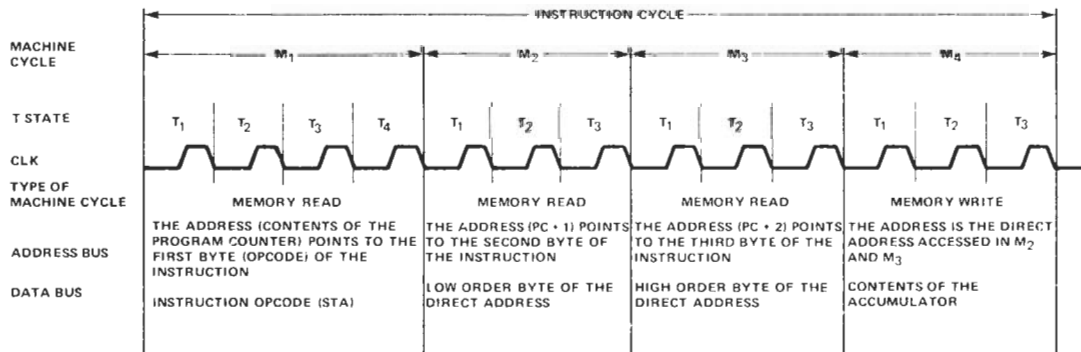

FIGURE 2-9 CPU TIMING FOR STORE ACCUMULATOR DIRECT (STA) INSTRUCTION
Each READ or WRITE operation of the 8085A is referred to as a machine cycle. The execution of each instruction by the 8085A consists of a sequence of from one to five machine cycles, and each machine cycle consists of a minimum of from three to six clock cycles (also referred to as T states). Consider the case of the Store Accumulator Direct (STA) instruction, shown in Figure 2-9. The STA instruction causes the contents of the accumulator to be stored at the direct address specified in the second and third bytes of the instruction. During the first machine cycle ( $M_1$ ), the CPU puts the contents of the program counter (PC) on the address bus and performs a MEMORY READ cycle to read from memory the opcode of the next instruction (STA). The  $M_1$  machine cycle is also referred to as the OPCODE FETCH cycle, since it fetches the operation code of the next instruction. In the fourth clock cycle ( $T_4$ ) of  $M_1$ , the CPU interprets the data read in and recognizes it as the opcode of the STA instruction. At this point the